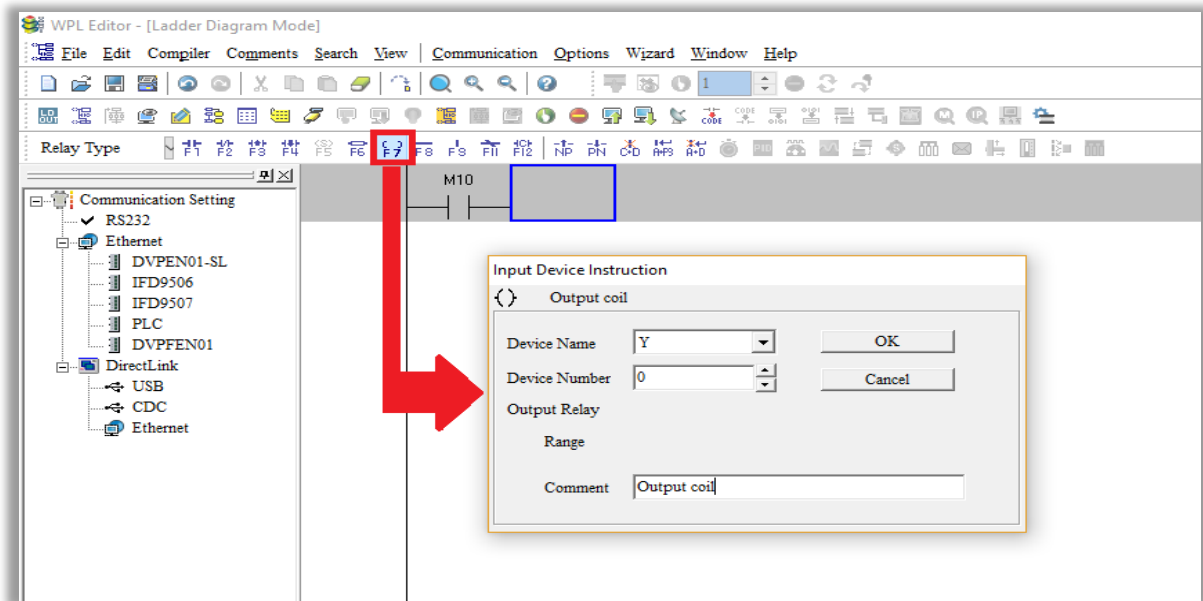

Figure 15-14
Step 3. Click  **Output Coils** button or press function key F7. **Input Device Instruction** window appears. Select **Device Name** (e.g., M), **Device Number** (e.g., 0), and type **Comment** (e.g., Auxiliary coil). Then, click **OK** to finish settings, as Figure 15-14, 15-15 shows.